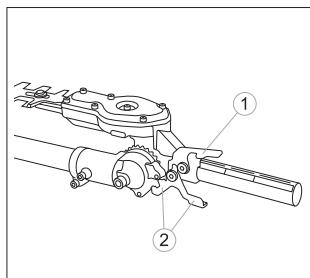

fig. 25
2. Press the release button after press the latch lock button (fig 25).